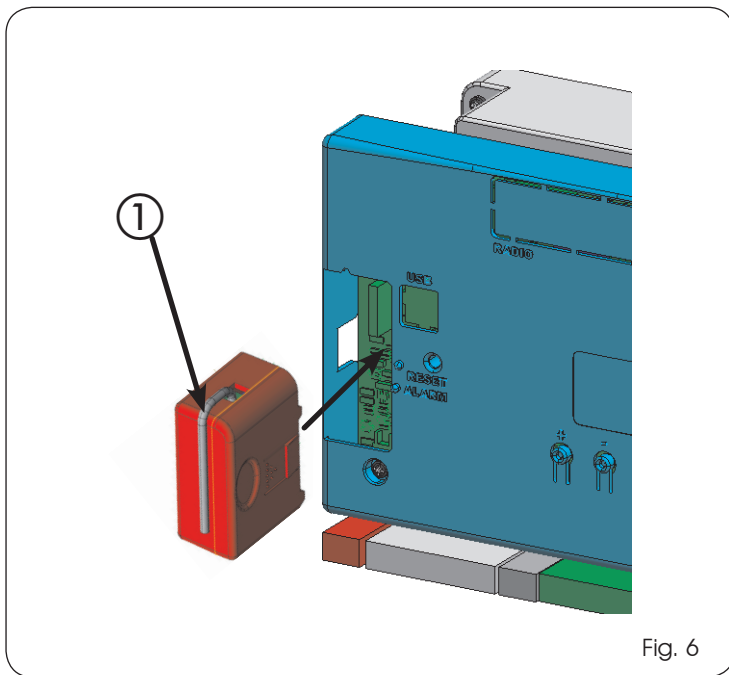

Fig. 6
The control unit has an integrated 2-channel decoding system. This system makes it possible to save – through an extra receiver module – RQFZ433 or RQFZ868 (Fig.6 ref.①) – radio commands of the same frequency, but of a different type. It is possible to save both total opening (OPEN A) and partial opening (OPEN B) of the automated system, up to a maximum of 256 channels.